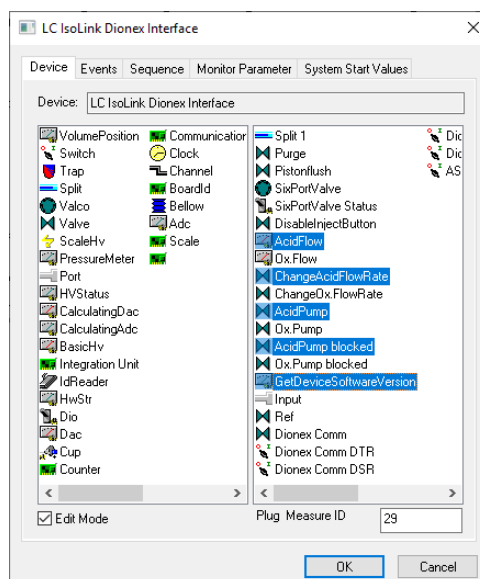

Figure 5-4. LC IsoLink Dionex Interface dialog: change acid pump COM ports
- c. Change the COM port for the Acid Pump and the device software version read out control. All device objects highlighted in blue color in Figure 5-4 must be set to COM5.